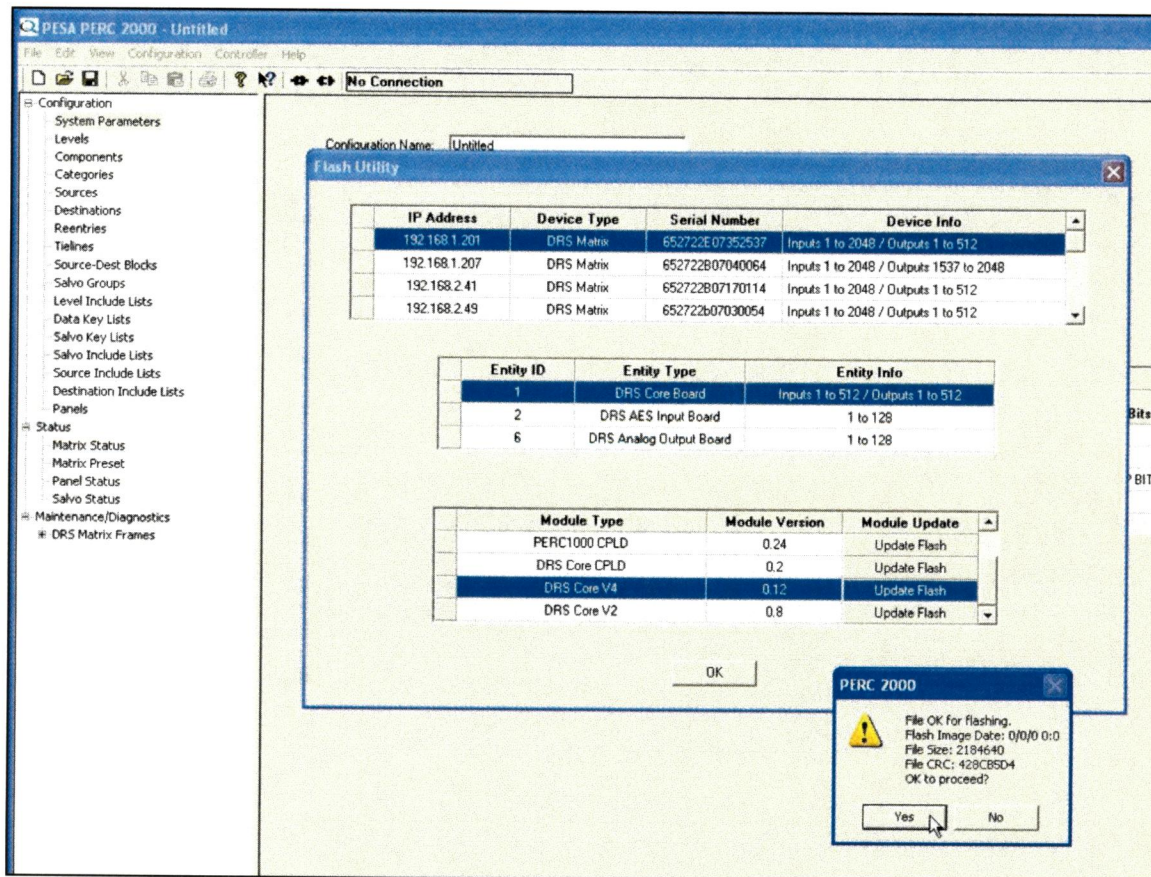

Figure 41. Caution Dialog Box
- ☐ 8. The OK to proceed? window, Figure 41, is displayed. Click the **Yes** button to begin the reprogramming operation.
- ☐ 14. The OK to proceed? window, Figure 41, is displayed. Click the **Yes** button to begin the reprogramming operation.